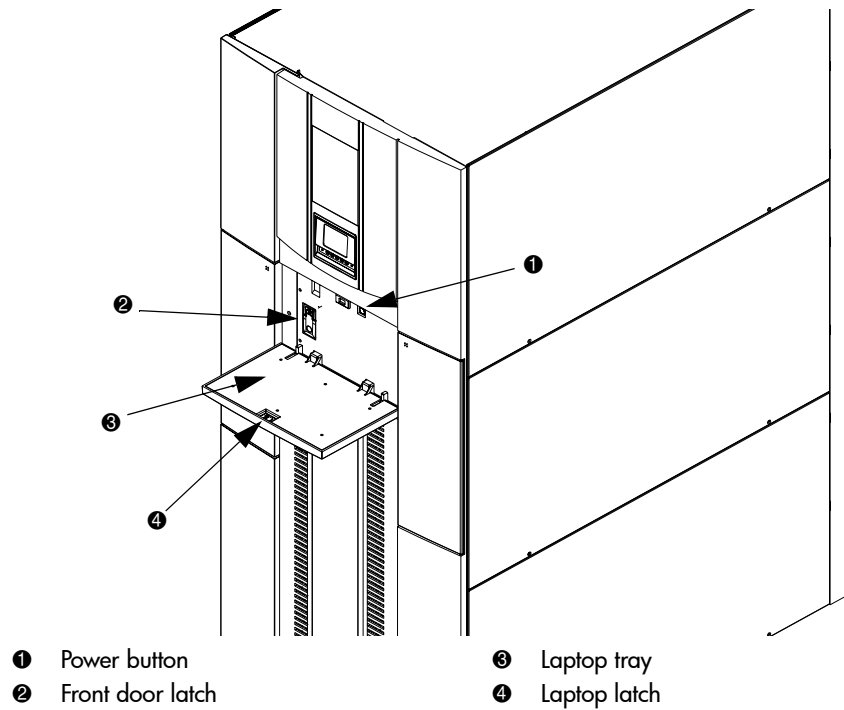

Figure 22: Closing the front door
1. Close and lock the front door using the key provided in the accessory kit (see Figure 22).
4. Power on the power switch located behind the laptop tray (see Figure 22, page 56).
5. Turn off the power switch located on the front of the library (see Figure 22 on page 56).